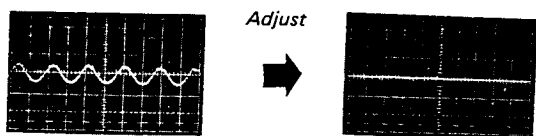

Fig. 3-6. Fm discriminator alignment output response.
4. If the discriminator transformer IFT201 is not aligned correctly, 400 Hz ripple will be observed as shown in Fig. 3-6.
5. Turn the secondary side core (green) of discriminator transformer IFT201 (see Fig. 3-10) with an alignment tool to obtain a minimum indication on the oscilloscope as shown in Fig. 3-6.